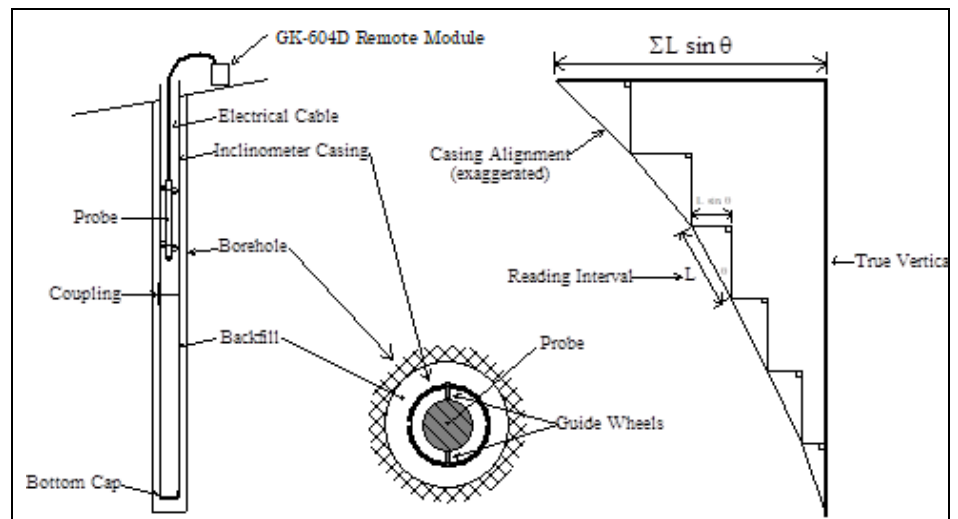

Figure 3: Inclinometer Survey Description
| Figure 3: Inclinometer Survey Description | 2 |
Subsequent surveys of the inclinometer casing, when compared with the original survey, will reveal any changes of inclination of the casing and locations at which these changes are taking place. Analysis of the change of inclination is best performed by calculating the horizontal offset of the upper wheels relative to the lower wheels, which has produced the tilting (θ) over the reading interval (L) of the survey (usually the 61 cm (2') wheelbase of the probe). At each position of the inclinometer, the two readings taken on each axis (A+, A- and B+, B-) are subtracted from each other leaving a measure of sine. This value is then multiplied by the reading interval (L) and the appropriate factor to output horizontal deflection in engineering units (see Figure 3).